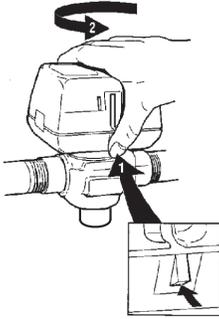

Fig. 2. Latch mechanism to detach actuator.
1. The actuator head is automatically latched to the valve. Align the coupling hole in the bottom of the actuator with the valve stem. Press the actuator down towards the body with moderate hand force and turn the actuator counter-clockwise by 1/8 turn (45 degrees) to line up the actuator with the piping. The latch will click when engaged. See Fig. 2.